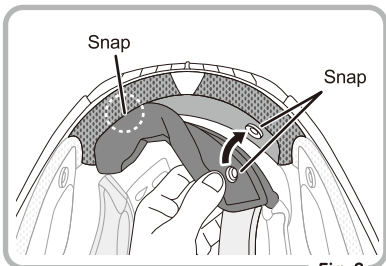

Fig. 3
(Fig. 3)
- ② Flex the shield carefully until the shield becomes flat. Then, click the other side of the Pinlock® Original Insert Lens into the eccentric pins and then allow the shield to return carefully to its original curved shape. (Fig. 3,4,5)
- ② Starting from the rear of the helmet where there is the upheaval part of the mesh material, push in the interlining of the cheek pad from the rear to the front (Fig.3).
- ③ As shown in (Fig.3), insert the interlining of the Wind Shutter uniformly into the inside of the rubber trim from both sides toward the center.